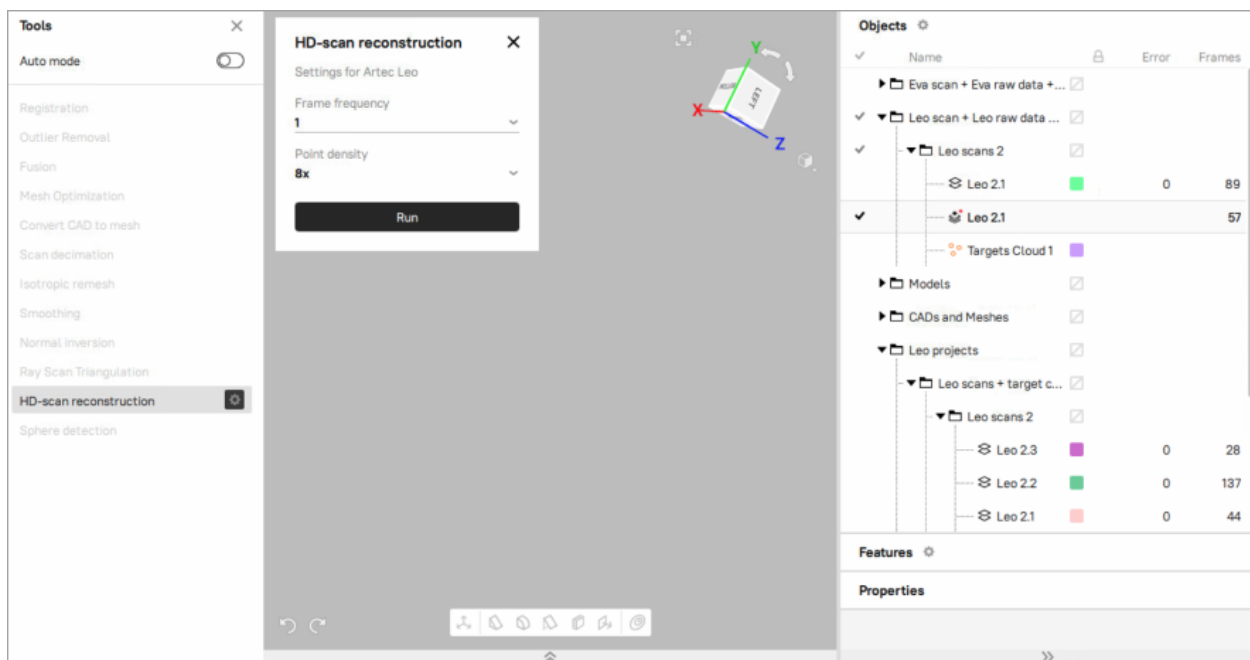

Figure 102: Launching HD scans reconstruction from saved raw HD data.
1. In the *Workspace* panel, select one or more raw data scans (Figure 102, right).
2. Open *Tools* → *HD Scan Reconstruction* (Figure 102, left).